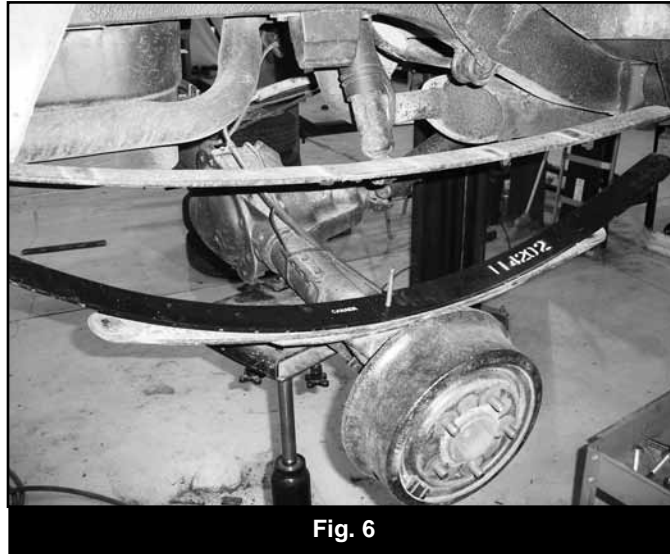

Fig. 6
42. Place the provided new leaf (114202R) in between the 2nd and 3rd leaf in the factory leaf pack. The leaf lengths get shorter as they go from the top leaf in a pyramid shape (Fig 6). Install a new center pin (560312FCP) into a new 5/8" block (01201) and install the pin into the bottom OE leaf and new leaf center pin hole so that the block is at the bottom.